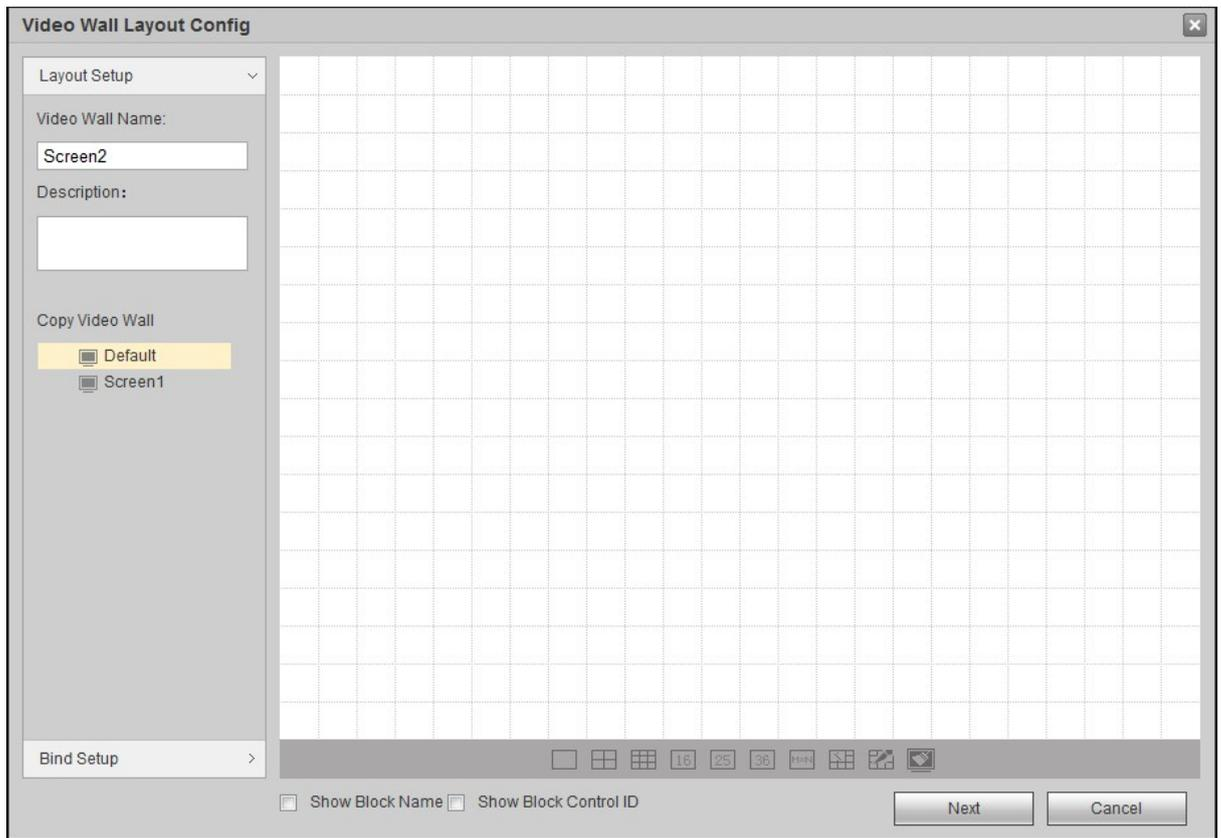

Figure 3-5
Step 2 Click “Add Video Wall”. The system displays “Video Wall Layout Config” interface, as shown in Figure 3-5.